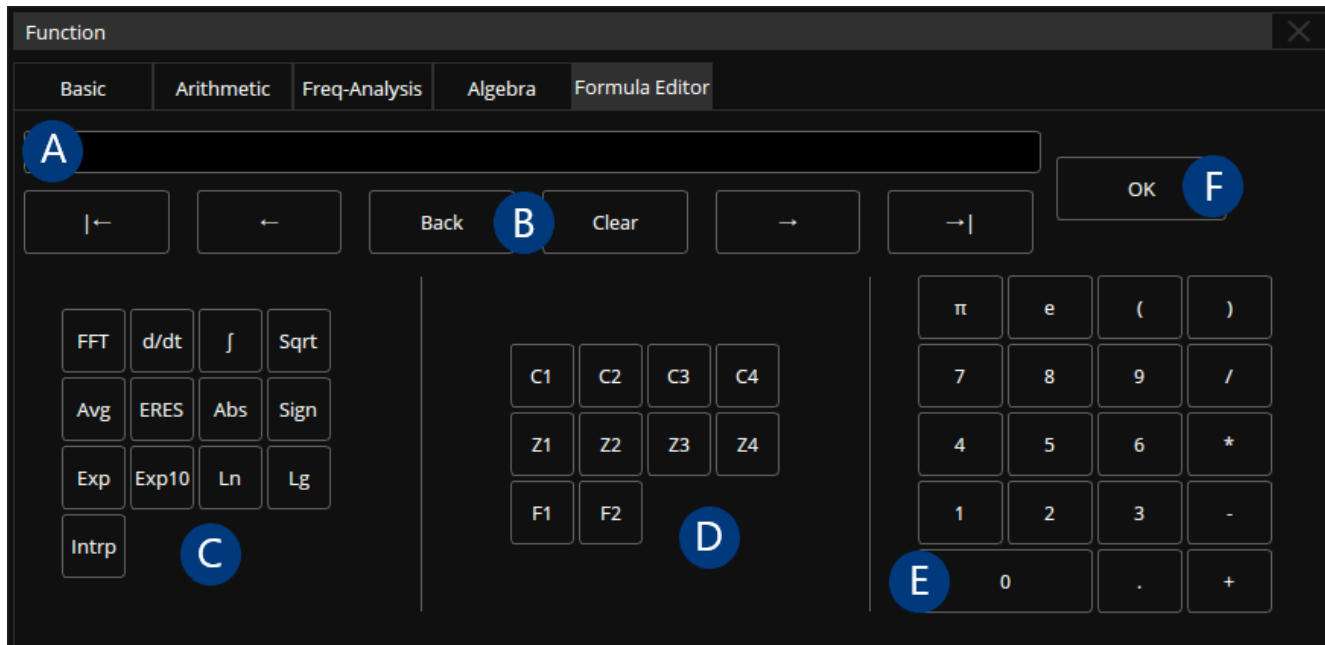

Figure 13.25 Formula Editor
- The **Formula Editor** tab shown in figure 13.25 will be displayed.